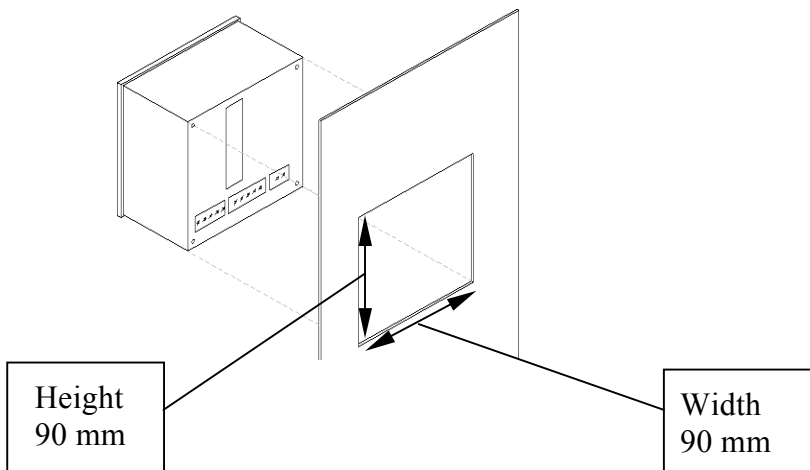

Figure 2.1 Panel Cutout
1. Choose a suitable location, and prepare a rectangular hole according to the dimensions shown in Figure 2.1